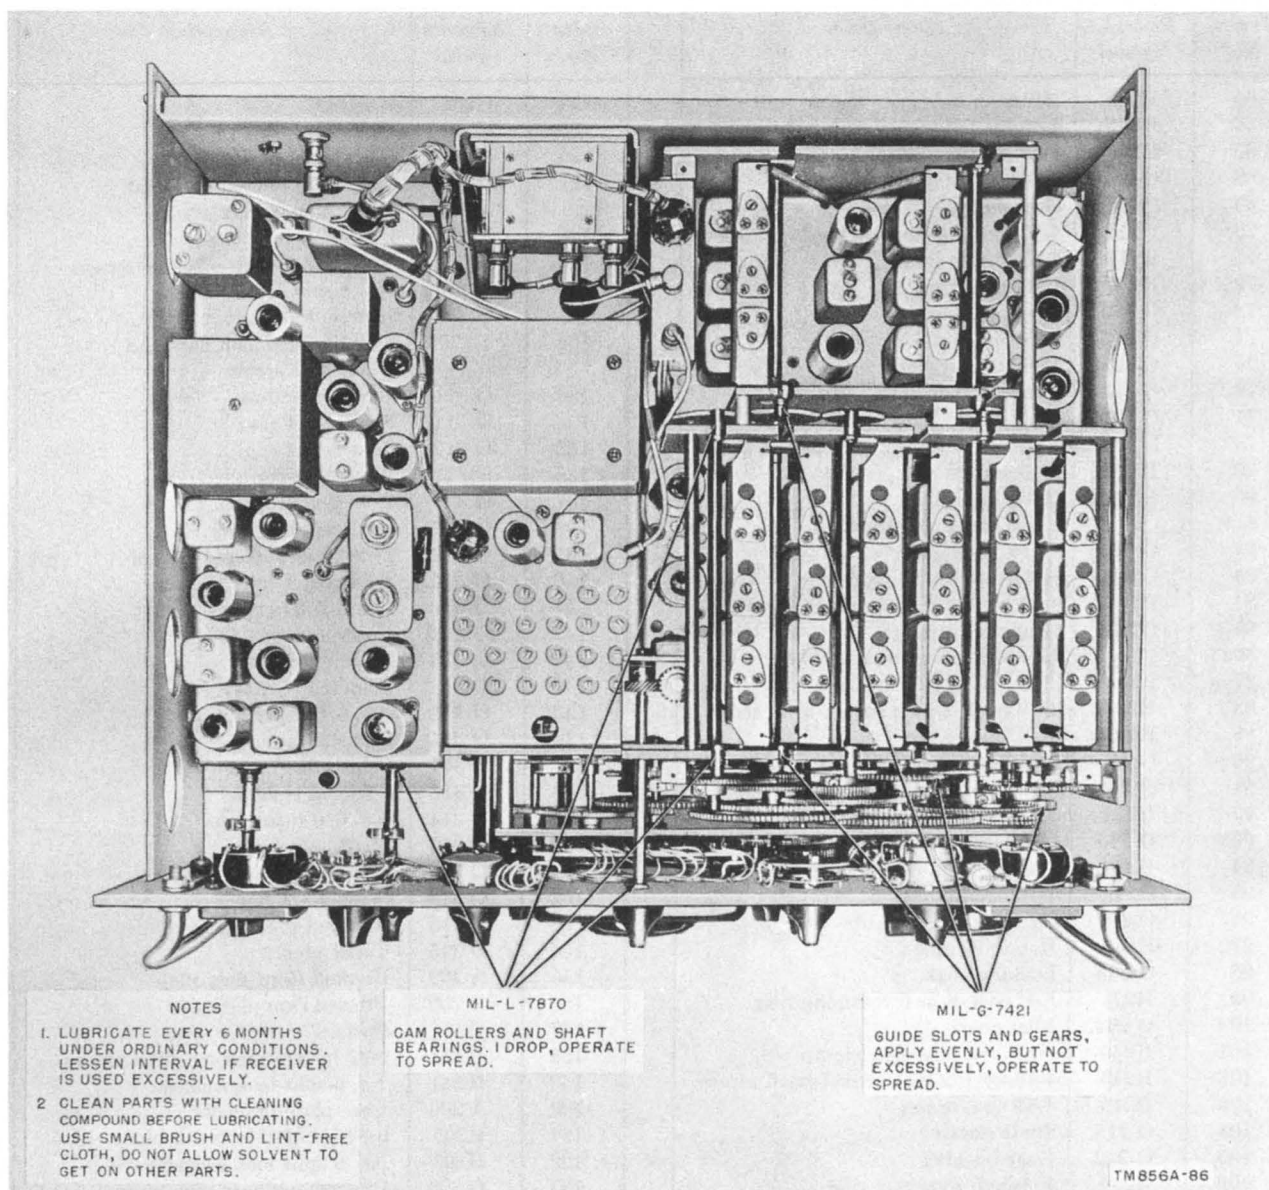

Figure 85. Radio Receiver R-390A/URR, Lubrication points.
b. Detailed Lubrication Instructions. Lubricate the gears, cams, bearings, slug racks, and guide slots as indicated in figure 85. To dis-